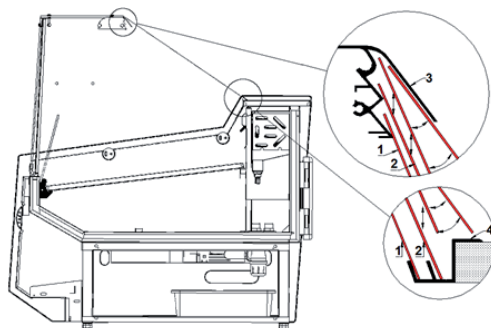
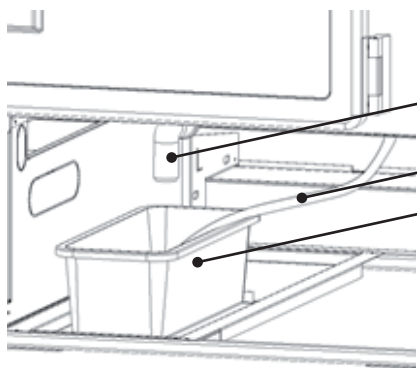

Fig. 5. Assembly/disassembly of night shutters
Fig.6 Condensate container (version without evaporator)
- Mount display shelves or fish tanks, hanging them on aluminium angle sections Fig.5/4;5 (p.19)
- Mount glass sides Fig.6/2;1 (p.20)
NOTE: In case of “Gastro” display cabinets, it is necessary to pull out the universal salad tank before mounting the glass side Fig.5 (p.19), in order to obtain free access to ABS side and to enable easy glass side with the help of glass holding downs Fig.6/1 (p.20).
- Mount the aluminium lamp (together with lighting) on glass sides Fig.6/3 (p.20)
- Mount the casing of lamp conduit Fig.6/10 (p.20)
- Mount front screen Fig.6/8 (p.20)
- Mount front glasses of the display cabinet Fig.6/5 (p.20)
NOTE: If the thermostat display (for „Igloo” thermostat) Fig.6/3 (p.15) only shows two dots at the bottom instead of the temperature, this means that no unit is attached (cooling function disabled). In this case, switch the cooling on/off button on the thermostat panel - see Fig.11/1 (p.19)!